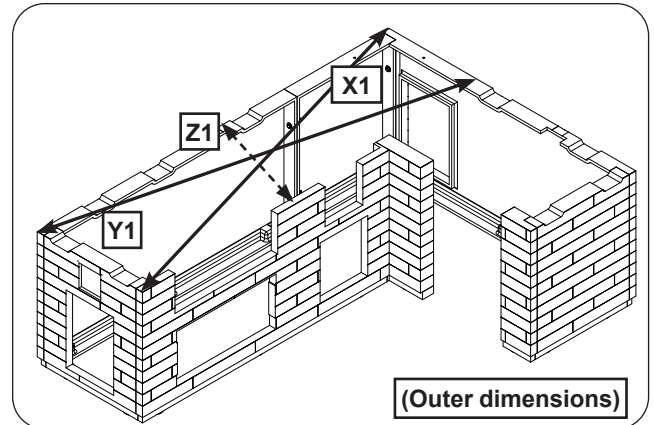

Fig. 14-2 Square unit
- a. Measure the X1 outer dimension, see Fig. 14-2. It should be approximately $111 \frac{5}{8}$ ".
- b. Measure the Y1 outer dimension, see Fig. 14-2. Carefully adjust the walls as needed to ensure the X & Y dimensions are equal. (The final dimension may slightly vary from that mentioned in step a.)
- c. Measure the Z1 outer dimension, see Fig. 14-2. It should be approximately 32".